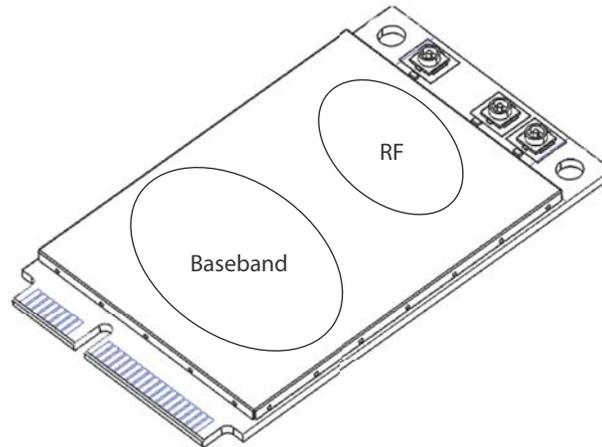

Figure 6-4: Shield locations (Top view)
Specific areas requiring heat dissipation are shown in Figure 6-4:
- Monitor temperature on the underside of the module. Attach thermocouples to the areas indicated in Figure 6-4 on page 37 (Baseband, RF).